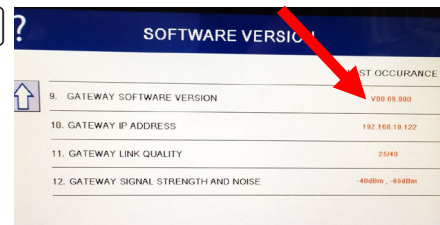

Figure 5
- The GATEWAY SOFTWARE VERSION and other information is shown (see Figure 5).